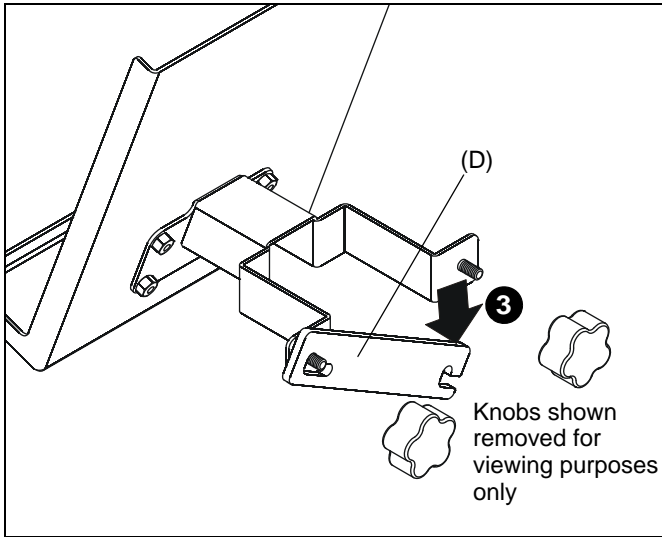

Figure 5
3. Let the bracket drop down and hang from the shelf's left stud. (See Figure 5)